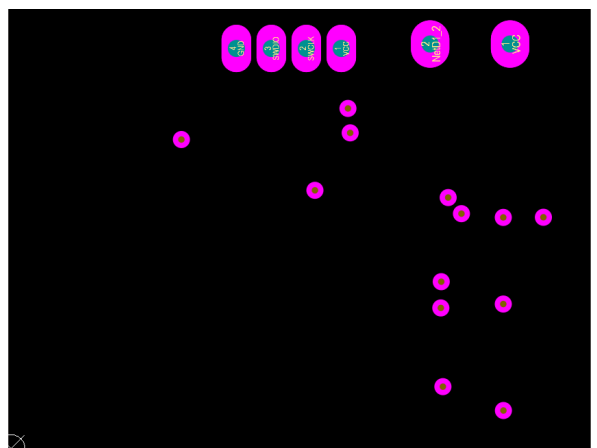

Figure 11. Bottom Solder Mask
- Figure 11. Bottom Solder Mask 7